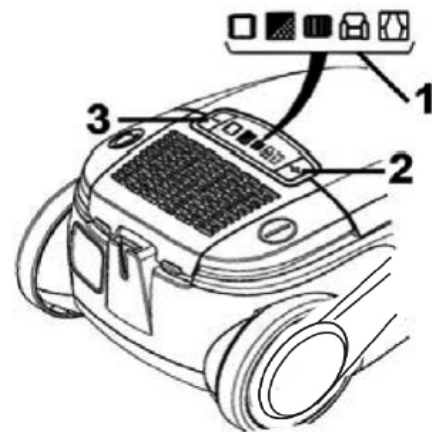

Fig.14
You can adjust the suction power of the unit to suit the type of surface being cleaned. Use the symbols on the suction power display as a guideline (Fig. 14/1):
- + button (Fig. 14/2) increases suction power
- - button (Fig. 14/3) reduces suction power